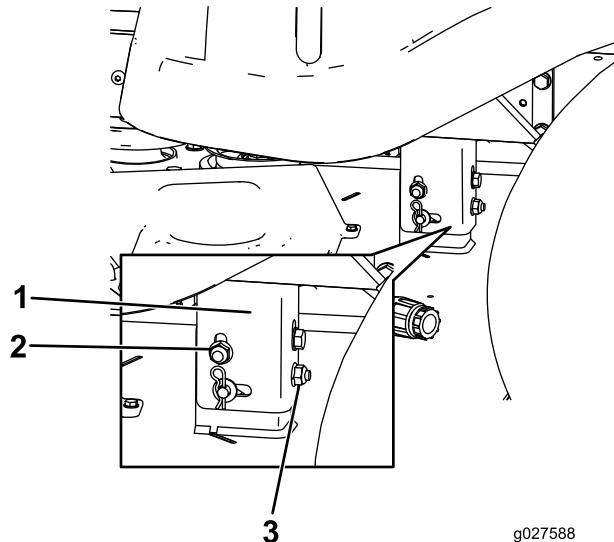

Figure 55
8. Raise or lower the left side of the mower deck by rotating the rear nut (Figure 55).